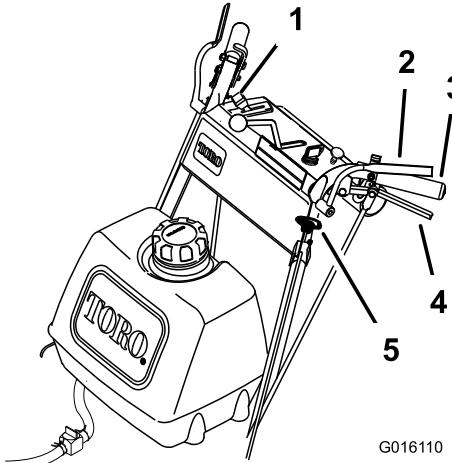

Figure 12
1. To engage the mower blades, squeeze the operator-presence control (OPC) levers against handle grips (Figure 12).
1. Push the blade-control knob (PTO) down to the OFF position (Figure 12).
2. Releasing the operator-presence control (OPC) levers shuts off the engine and stops the blades (Figure 12) with the blade-control lever engaged.